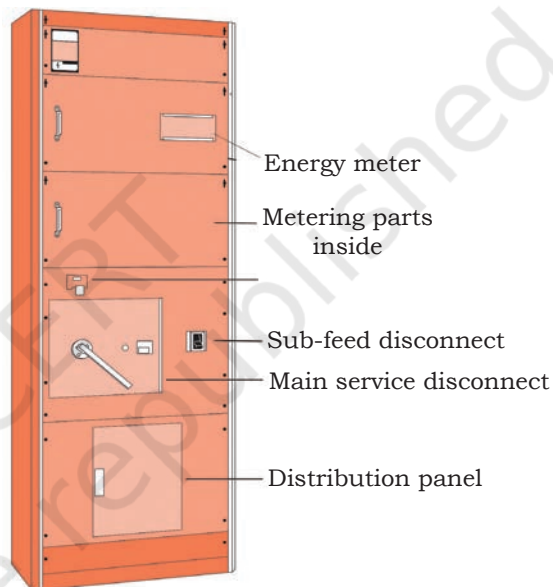

Fig. 6.17: SB3 switchboard
- (c) **SB3 switchboards** are front and rear aligned. SB3 switchboards are designed for special configurations, such as incoming and outgoing busway connections. The switchboard is designed as a service entrance switchboard. When the main service disconnects, the distribution devices are contained in a single unit as shown in Fig. 6.17.